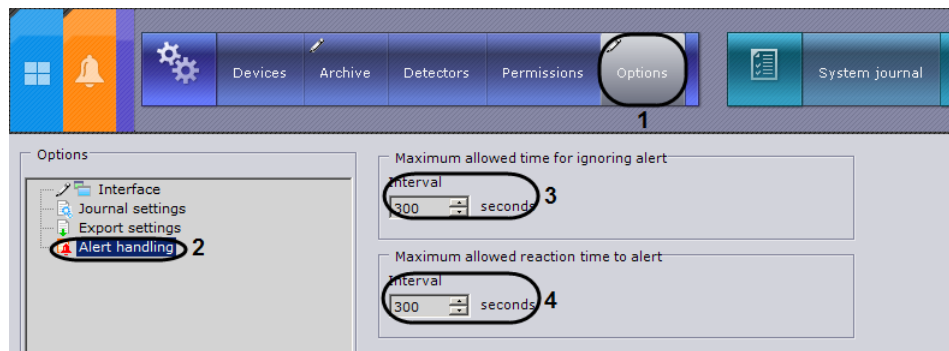

Fig. 6.11—1 Configuration of alert handling
1. Go to **System settings**⇒**Options**⇒**Alert handling** (Fig. 6.11—1, 1-2).
2. In the **Maximum allowed time for ignoring alert** group, enter the time in seconds during which it is necessary to accept the alert for handling before it is assigned **Missed** status (see Fig. 6.11—1, 3).
3. In the **Maximum allowed reaction time to alert** field, enter the time in seconds during which an operator who accepted an alert for handling and exited alert mode without evaluating it must return to alert mode (see Fig. 6.11—1, 4).